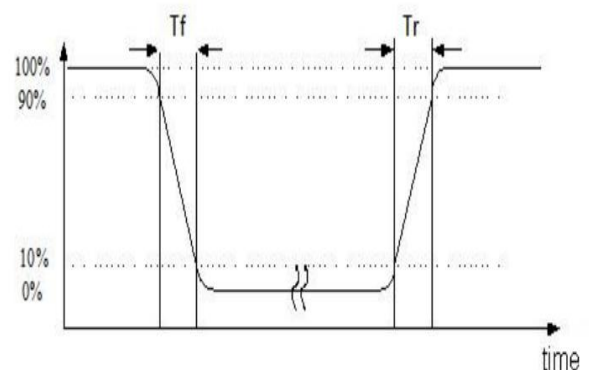

图 2
5. 电光响应时间测量应如图 2 所示, 通过打开和关闭“数据”输入信号来进行。亮度从 10%变化到90%所需的时间是 T_r , 90%到10%是 T_f 。
The electro-optical response time measurements shall be made as FIGURE 2 by switching the “data” input signal ON and OFF. The times needed for the luminance to change from 10% to 90% is T_r , and 90% to 10% is T_f .